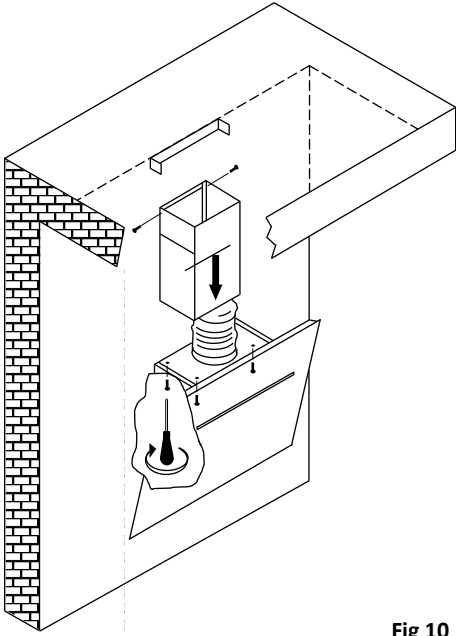

Fig 10
8. Fix chimney to the Boheme and wall (Fig 10).